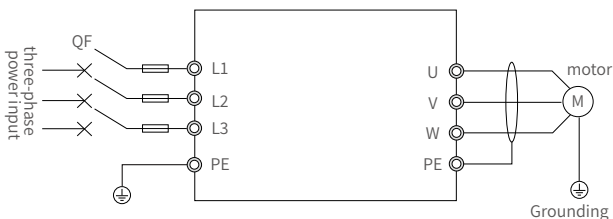

Figure 3-1 Wiring Diagram for Test Run
- (1) Before connecting the input power supply to the inverter, confirm that the power supply voltage is within the rated input voltage range of the inverter.
- (2) Wire according to the diagram shown in Figure 3-1.
- (3) After confirming that the wiring is correct, close the power switch to turn on the power, and the inverter will display "50.00"
- (4) Select the control mode as P00.00=0, V/F control mode.
- (5) Select the command source as P00.01=0, keypad control.
- (6) Select the frequency source as P00.02=0 (keypad digital setting), and set the preset frequency P00.08=0.00.
- (7) Press the "I" key to start the inverter; the inverter outputs 0 frequency, and the keypad displays "0.00".
- (8) Press the "▲" key to increase the set frequency; the output frequency of the inverter starts to increase from "0.00", and the motor speed accelerates.
- (9) Observe whether the motor operates normally. If there is any abnormality, stop the machine immediately, eliminate the cause, and then restart.
- (10) Press the "▼" key to decrease the set frequency; the motor speed decreases.
- (11) Press the "⏻" key to stop the inverter and cut off the input power supply.